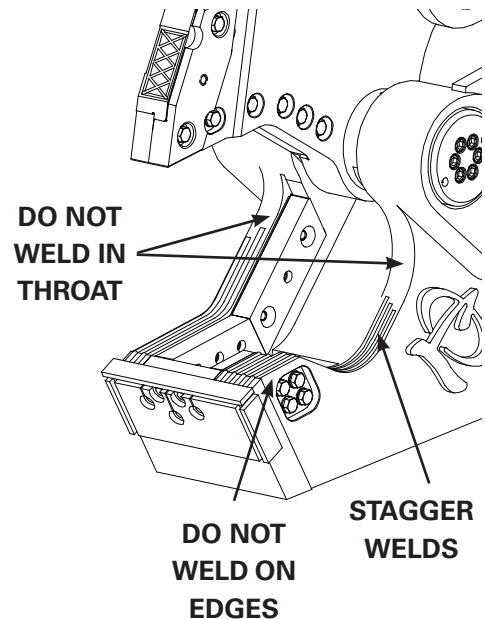

FIGURE 5-24
7. If necessary, build up the area beneath the edge of the secondary blade so it is flush with the blade (see figure 5-24). The blade should not stick out beyond the edge of the seat in this area. However, do not weld in the apex area.